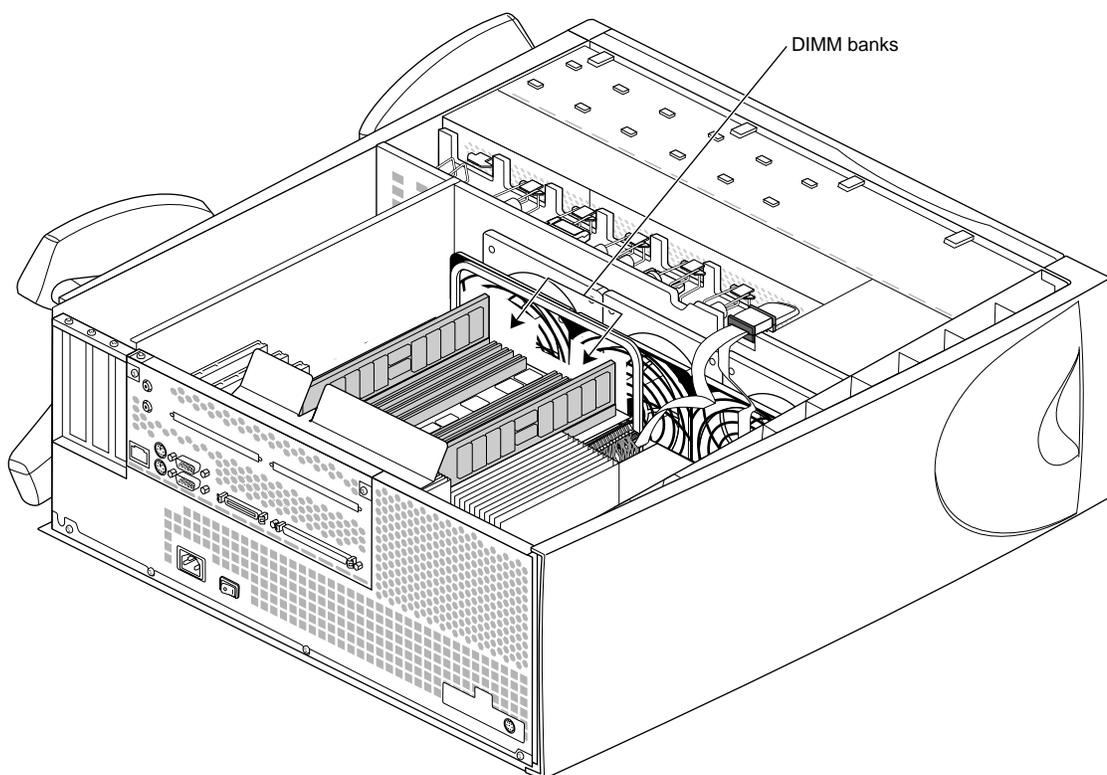

Figure 3-4 Locating DIMMs in an Origin200 Server
2. Locate the DIMMs. See Figure 3-4.